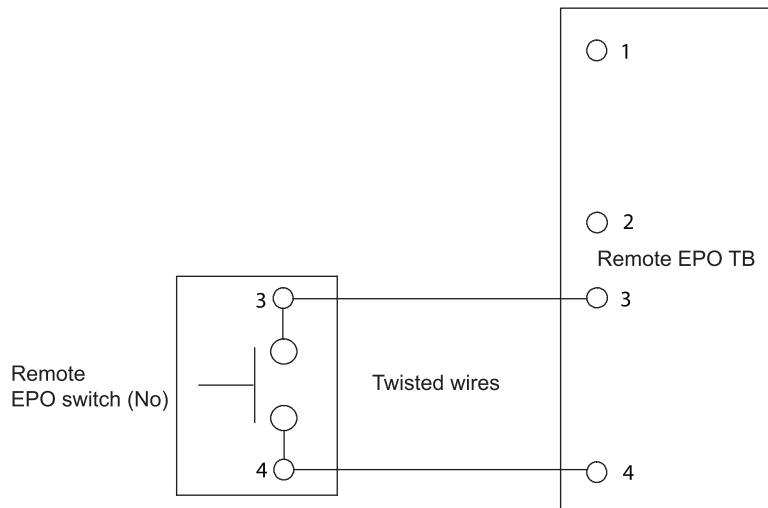
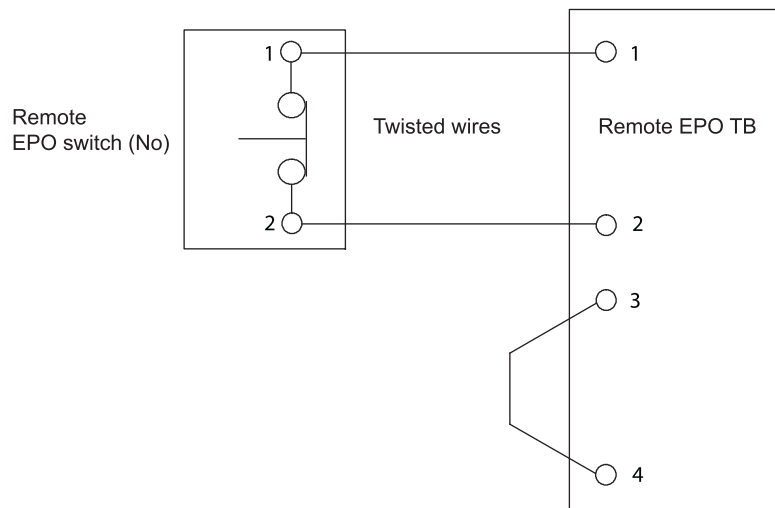

Figure 4-15: Normally-open remote EPO switch wiring
Figure 4-16: Normally-closed Remote EPO switch wiring
NOTE 4: This procedure is intended for installing the Eaton-supplied Remote EPO switch. If installing another manufacturer's switch, use this procedure, and Figure 4-15 and Figure 4-16 below as a guide.
5. Connect the wiring as shown in Table 4-4 and Figure 4-15 for a normally-open Remote EPO or Table 4-5 and Figure 4-16 for a normally-closed Remote EPO.